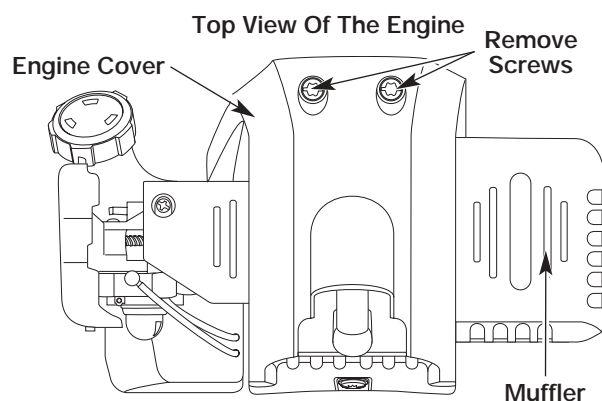

Fig. 68
2. Remove the two (2) screws on top of the engine cover with a Flat-head or T-25 Torx screwdriver (Fig. 68).
6. Remove the engine cover (Fig. 68).